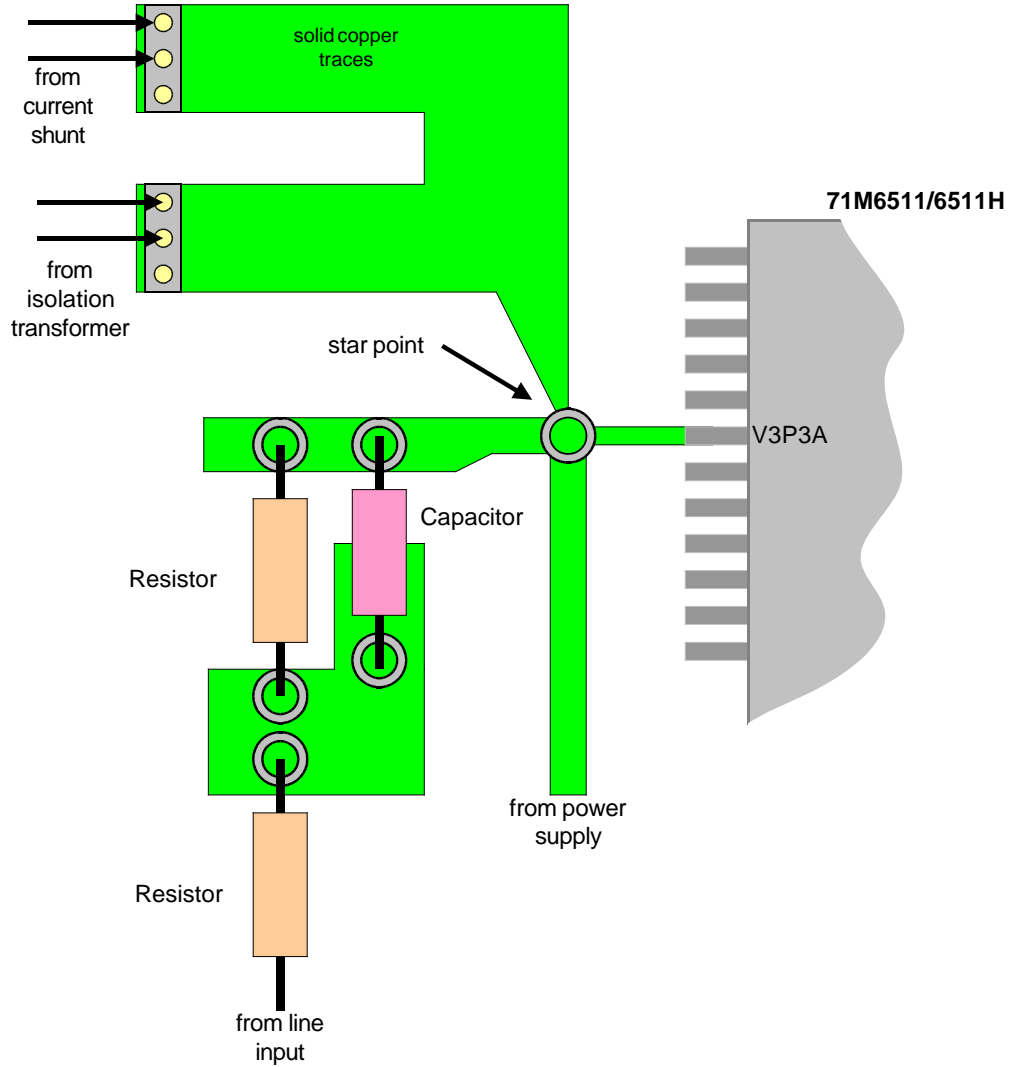

Figure 8: PCB Routing of the V3P3 Net
**It is important to note that the routing of the input sensing traces and of the reference V3P3 to the voltage and shunt inputs is very critical. The circuit shown in Figure 8 provides the necessary information for routing the V3P3 net.**